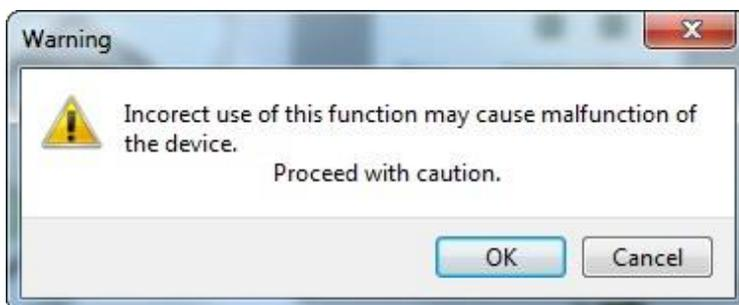

Fig. 32 Firmware update - warning.
2. Warning: Select **OK** to start update (Fig. 32)